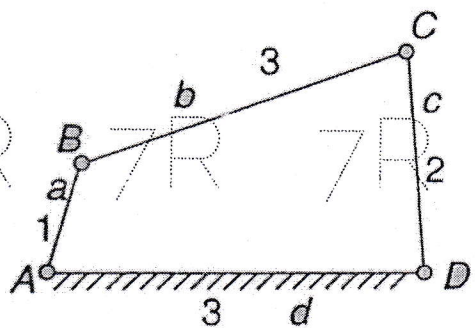

Figure: 1
- b) Find the maximum and minimum transmission angle for the mechanism as shown in figure 1. [5]